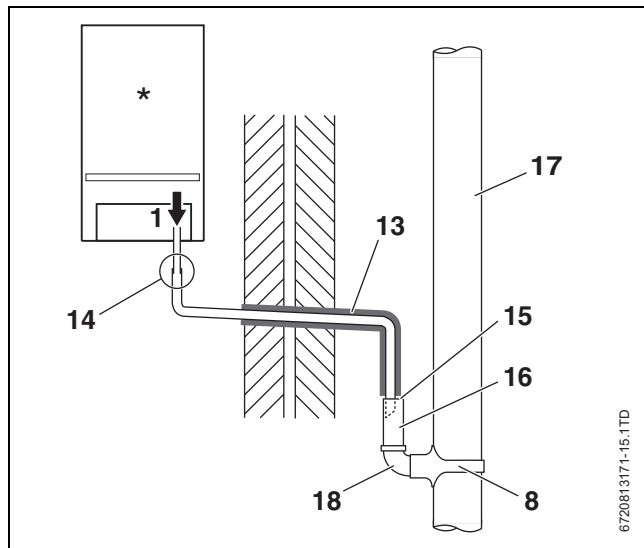

Fig. 16 Disposal into a rainwater down pipe
- Refer to figure 16 when a rain water down pipe is used to dispose of condensate.